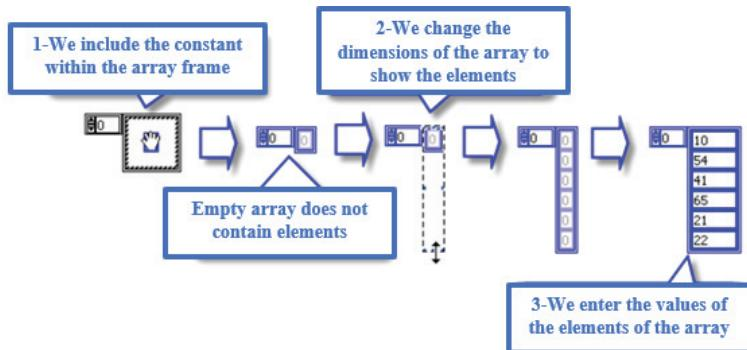

Figure 2.193: Create Constant Array
- 2- Insert "Constant" inside the array frame. This parameter can be of type Numeric, String, or Boolean, as shown in figure 2.193.